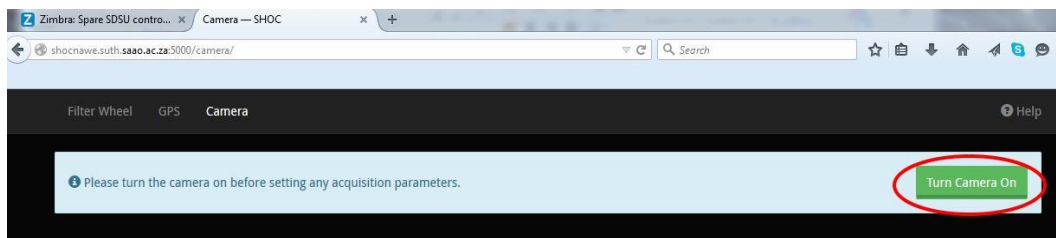
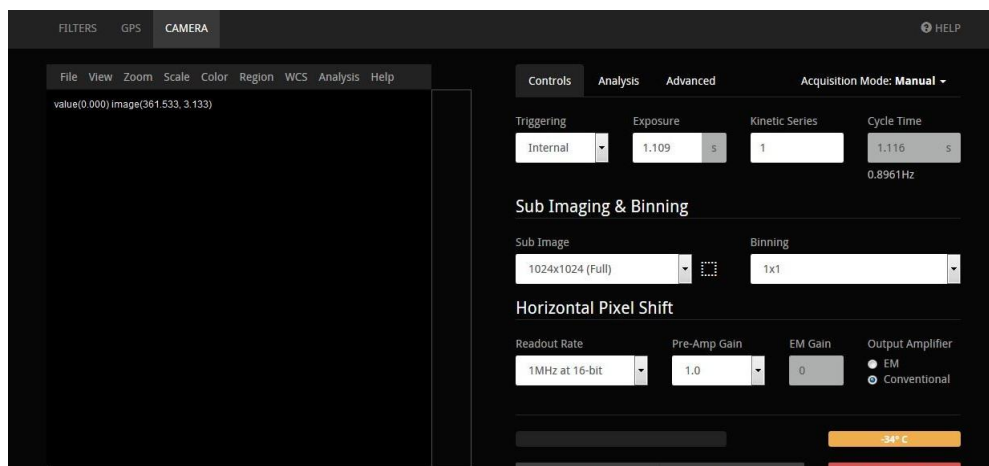

Figure 5: Initial Camera GUI – switch Camera ON
Figure 6: Initial Camera Control GUI
6. Go to the **Camera** tab, click the "**Turn Camera on**" button – see figure 5. If the camera switches on OK the control GUI will appear – See Figure 6.